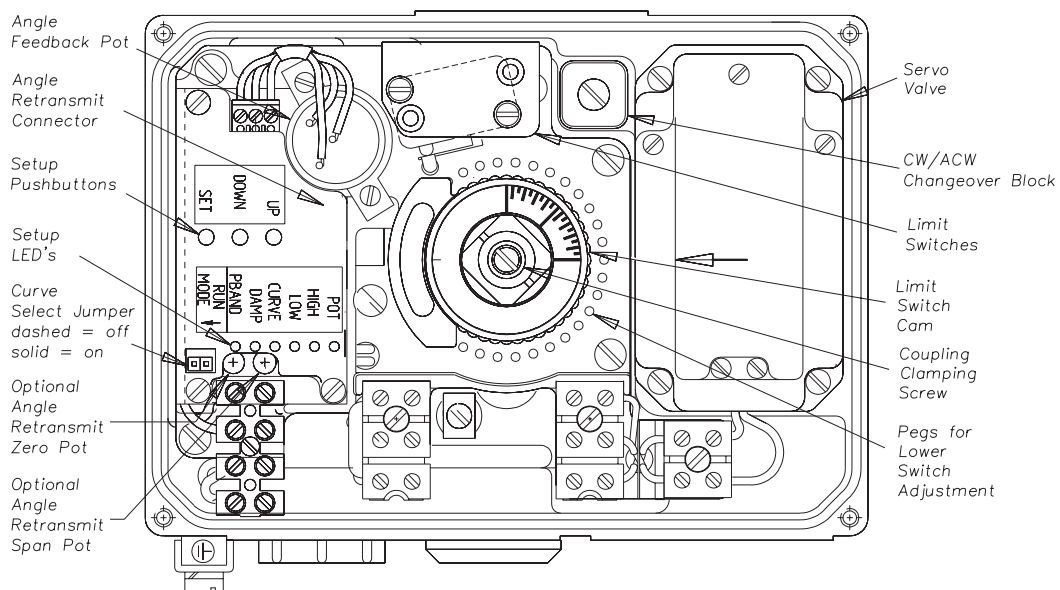

FIGURE 6a. DIGITAL EL CONTROL ADJUSTMENTS. OPEN BOX, TOP VIEW - MOULDED COUPLING.
4.2.1 Moulded coupling cams, shown in figure 6a, can be adjusted using light pressure to rotate in 1 degree increments. Adjust the lower cam first using a screwdriver to lever against special pegs moulded into the carrier plate or use finger pressure. Secondly move the upper cam using finger pressure only. Graduated marks on the top of the coupling are provided to gauge the position of the actuator with the lid removed. This can be lined up with an arrow marked on the servo valve lid.